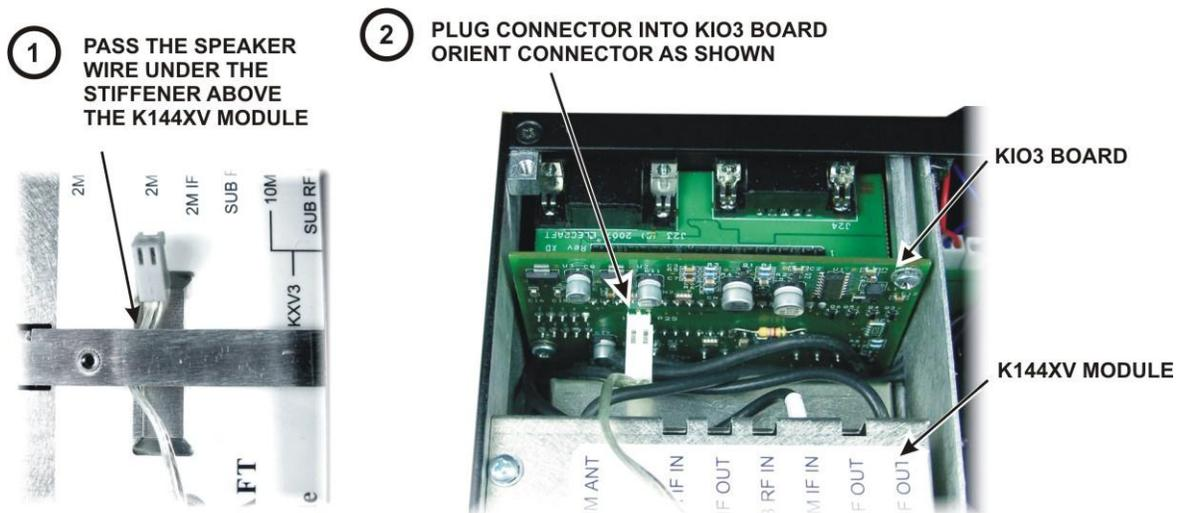

Figure 10. Connecting the Speaker Cable.
- Hold the top cover above the K3 and route the speaker wire under the stiffener bar. If you have the K144XV 2-meter option installed, route the speaker cable under the stiffener bar at the depression in the top of the K144XV module as shown in Figure 10. Plug the speaker cable into P25 on the KIO3 board at the left rear of the K3.